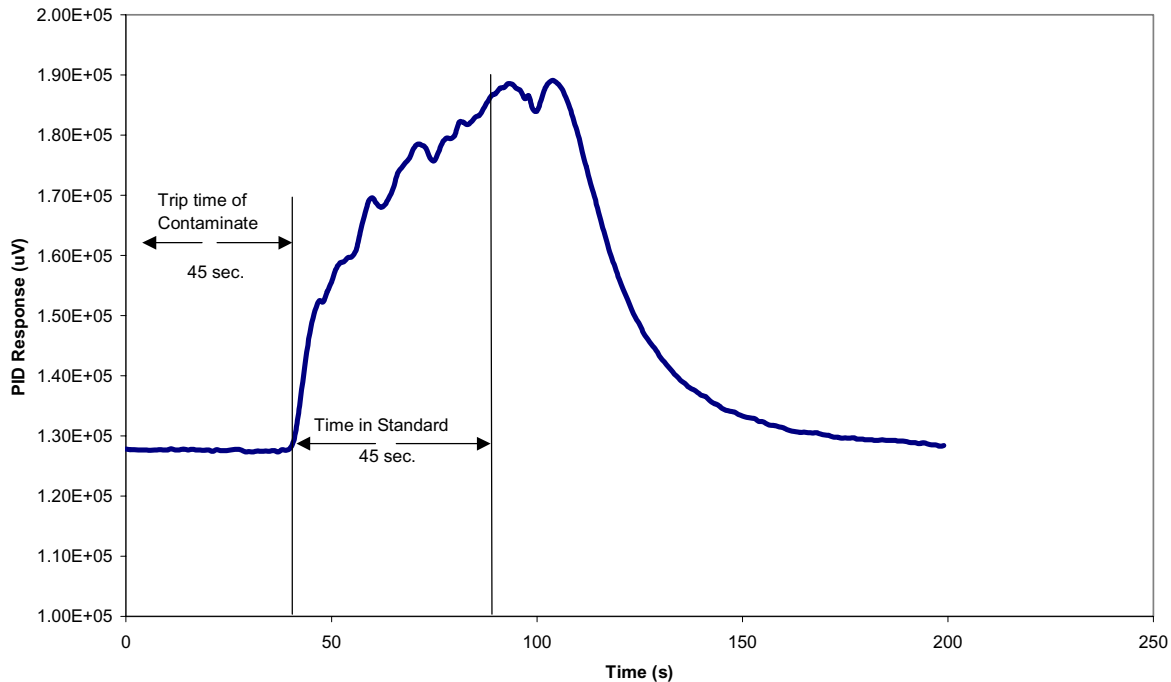

Figure 4.2
6. From the results on the MIP Time software the trip time and response time can both be measured (Fig. 4.2).
12. With the software loaded, run a response test (Section 4.0) and record the height of the peak response and the trip time into a field notebook. Refer to Figure 4.2.